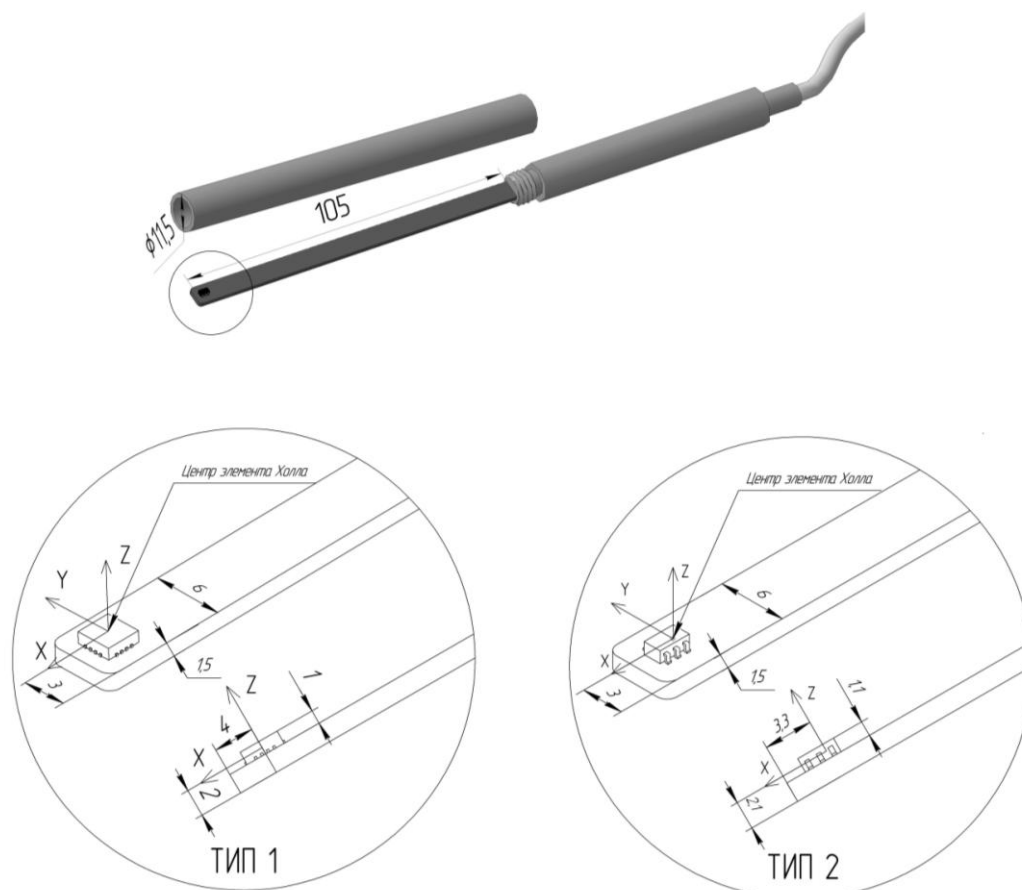

Figure 1.1. External view of the probe (Type 1, Type 2), directions of X, Y, Z axes
1 The  $B_x$  component is measured along the longitudinal axis of the probe, the  $B_y$  component - perpendicular to the longitudinal axis of the probe in its plane, and the  $B_z$  component - perpendicular to the plane of the probe (see Figure 1.1). The same applies to the  $H_x, H_y, H_z$  components of the magnetic field strength
1.4.3 The IC chip of each probe is installed in the working part of the probe near its end. The probe exterior with dimensions, location of the IC chips and directions of the X, Y, Z axes is schematically shown in Figure 1.1. The working parts of the probes are supplied with cylindrical removable protective caps made of non-magnetic metal. The latter makes it possible to measure the magnitude of the DC magnetic field vector (when the field acting on the Hall element is not distorted by the eddy-current-induced field) without removing the protective cap.